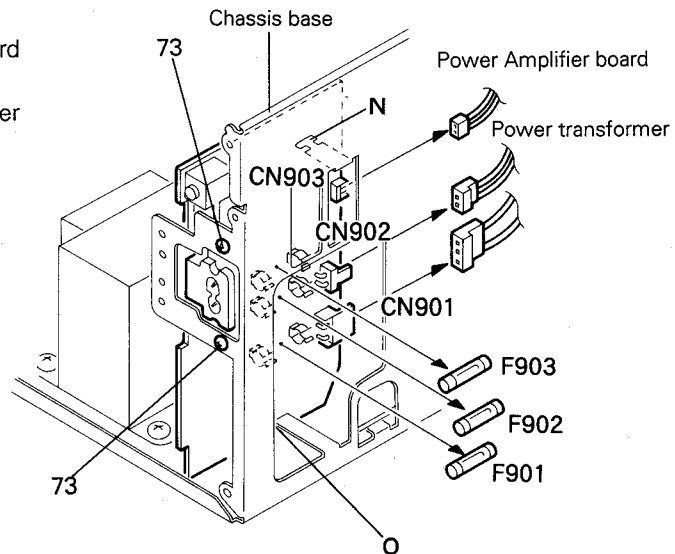

Fig. 7-14
■ **Power Supply board** (Fig. 7-14)
1. Remove two screws (73) retaining the Power Supply board to the chassis base.